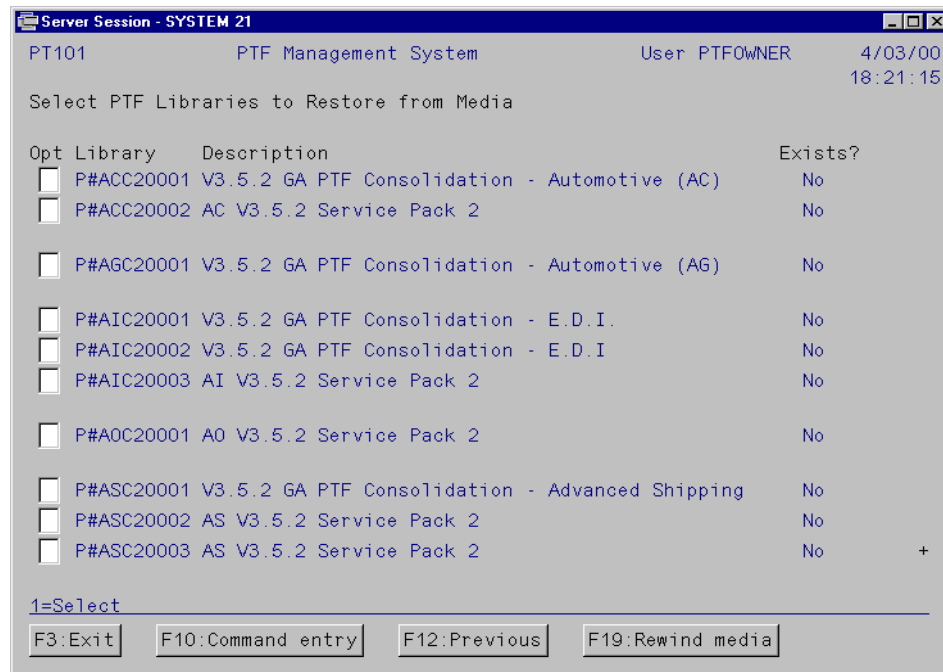

Figure 105. PTF Restore from Media list
5. Press Enter to display a list of PTFs included on the media (Figure 105).